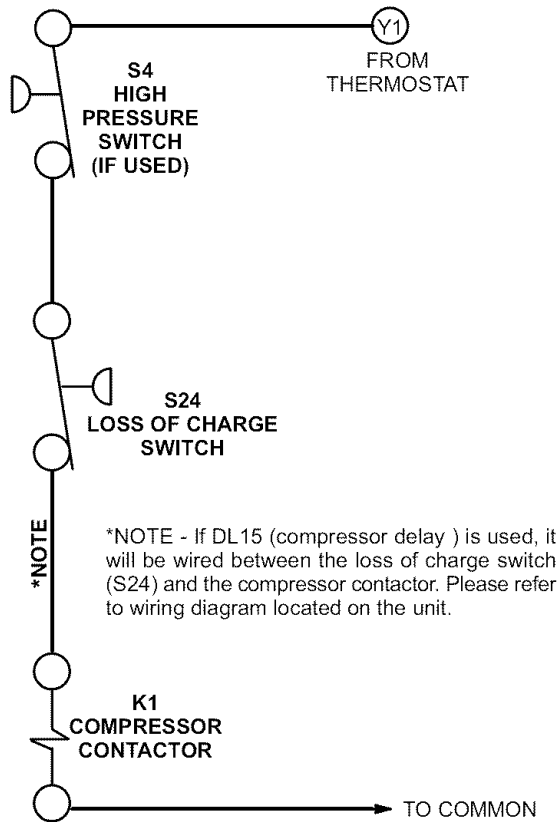

FIGURE 2
- 5 - Wire loss of charge switch in series with the compressor contactor coil. Refer to wiring diagram on unit and to field wiring diagrams in figures 2 and 3.